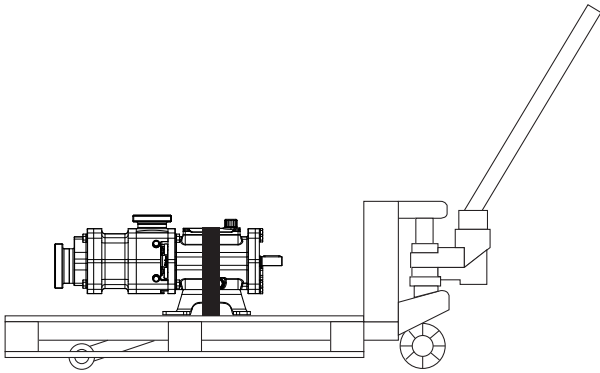

Fig. 16 Transport using lift truck
- ▶ Check whether the pump is adequately secured on the pallet. For instance using straps Fig. 16 “Transport using lift truck”, Page 23.